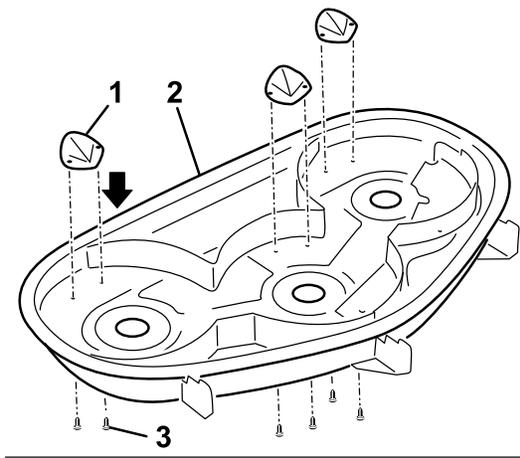

Figure 6
1. Align the three kicker plates with holes toward the top of the deck (Figure 6). The long slope of the kickers must be face inward.